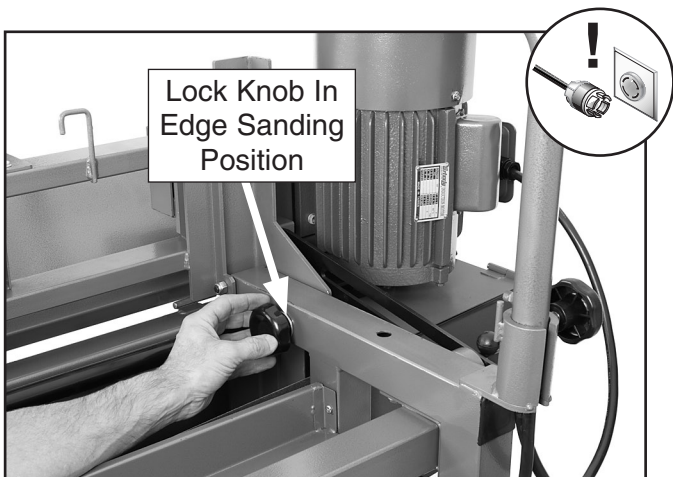

Figure 44. Lock knobs in edge sanding position.
- Replace the belt tilt lock knobs into the edge sanding position (**Figure 44**).